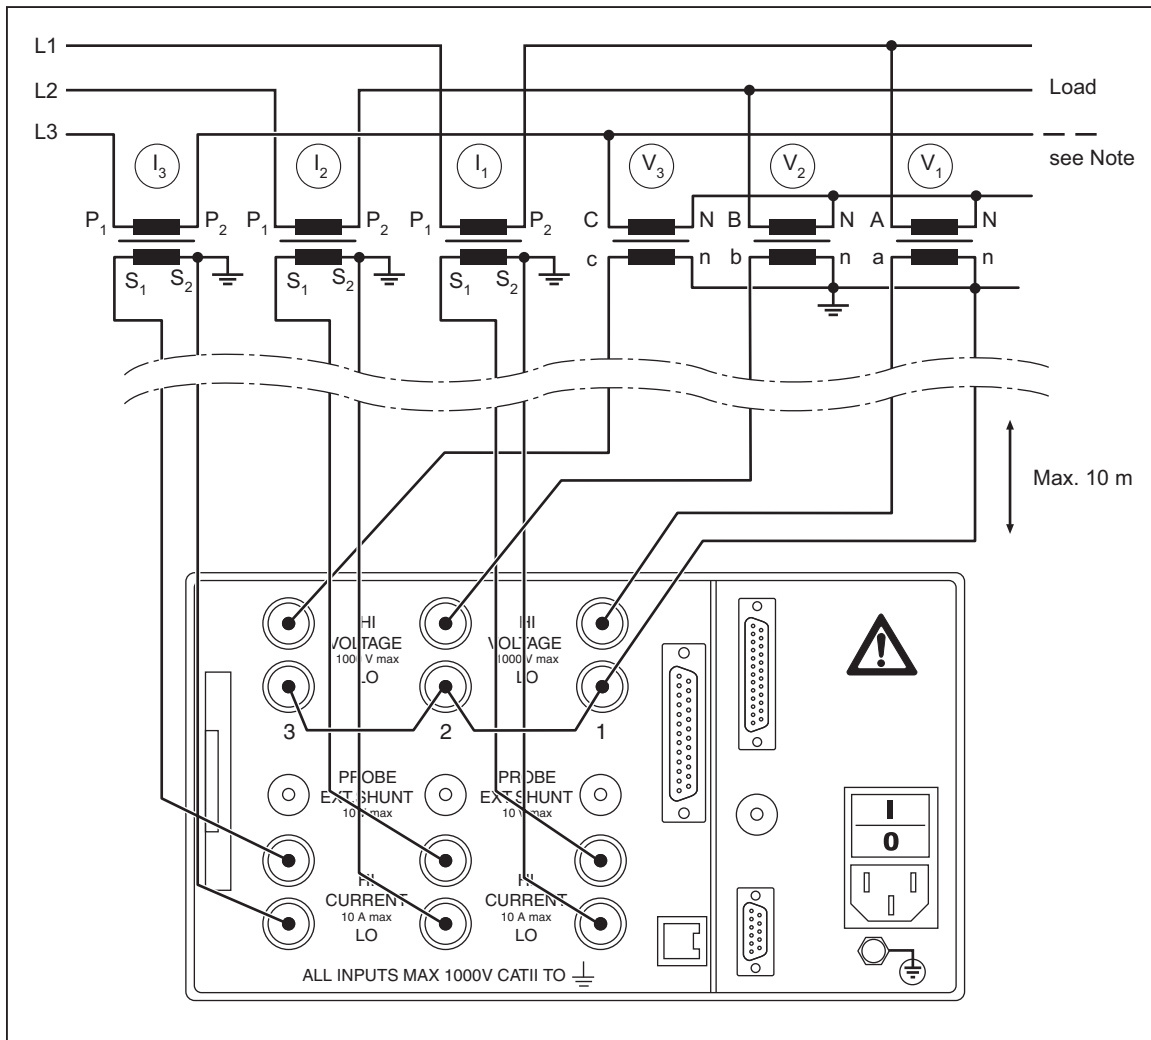

Figure 5-10. 3-Phase (W3) Voltage and Current Transducer Measurement
Figure 5-10 illustrates the connections for a 3-phase measurement with a voltage and current transducer. In 4-wire power systems, the common (N) of the 3 voltage transducers is connected to the neutral line. In 3-wire power systems, the common (N) of the 3 voltage transducers is left open to create a star point. Alternately, you can connect to the star point of a wye-connected load or to earth if the internal star point of the power system is connected to earth.